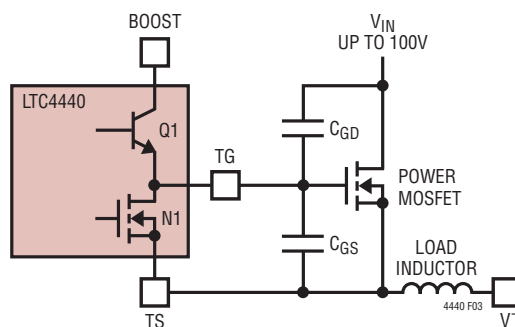

Figure 3. Capacitance Seen by TG During Switching
A simplified version of the LTC4440's output stage is shown in Figure 3. The pull-down device is an N-channel MOSFET (N1) and the pull-up device is an NPN bipolar junction transistor (Q1). The output swings from the lower rail (TS) to within an NPN V_{BE} ($\sim 0.7V$) of the positive rail (BOOST). This large voltage swing is important in driving external power MOSFETs, whose $R_{DS(ON)}$ is inversely proportional to its gate overdrive voltage ($V_{GS} - V_{TH}$).